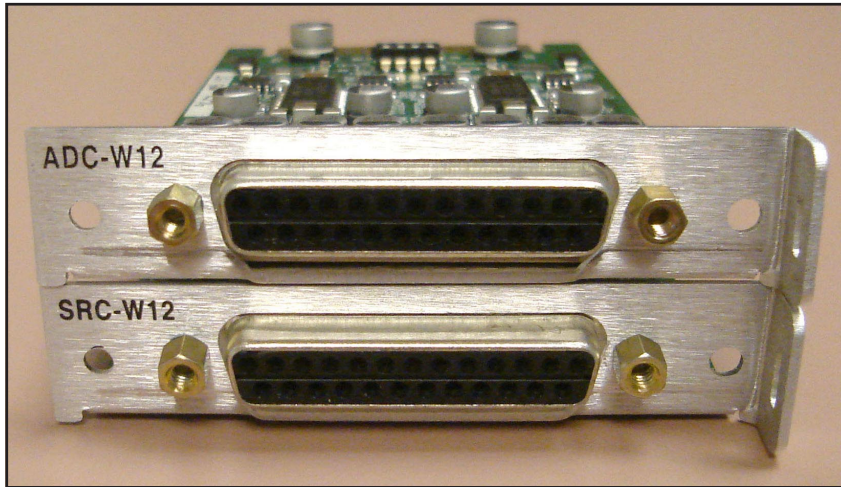

Figure 1. Input Daughter Cards
To configure the console inputs, two types of daughter cards are available (Figure 1):
The supplied hand crimping tool (W/S#850067) is used for all I/O wiring connections to and from the console. It is to be used with the supplied pin (figure 1) intended for 22"-28" gauge wire.
2) Leaving wire aside for the moment, with crimping tool fully open (engraved side toward you) bring a terminal into position from the unmarked side of the tool. Place the conductor tabs (inner set as shown in figure 1) on the "18-22" or "24-30" (depending on the wire) anvil (slightly curved surface) so that the circular portion of the tabs rests in the curved surface of the anvil and the two tabs face up into the walls of the female jaw. The insulation tabs will be flush with the top of the tool (figure 2).